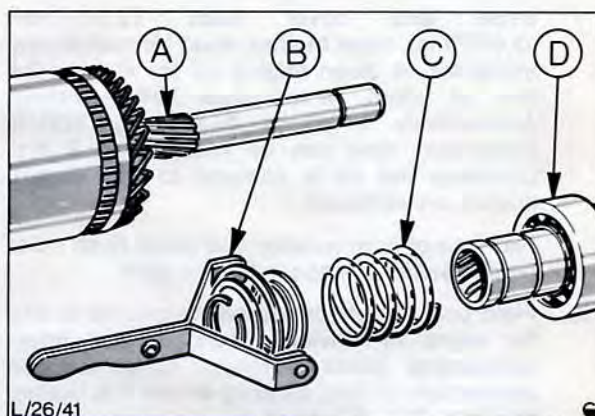

Fig. 85. Actuating lever assembly
8. Slide complete assembly off armature shaft. There will normally be no need to separate actuating lever from clutch and pinion, as all items are serviced as an assembly. Correct build up of assembly is illustrated, Fig. 85.